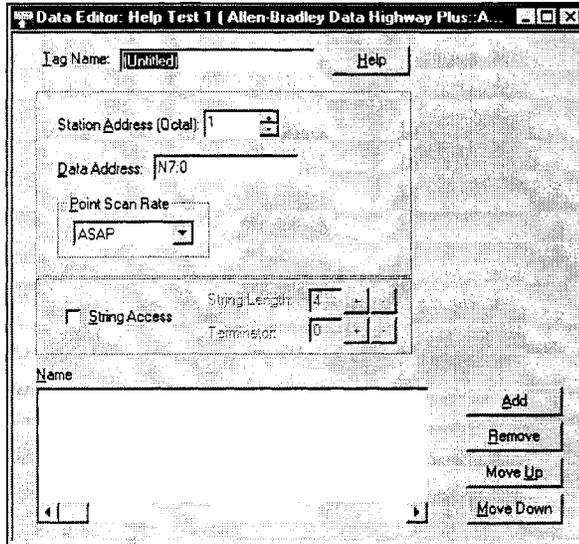

Figure 5. Allen-Bradley Data Highway+ Data Editor Dialog Box
2. Double-click on the driver name for which you want to configure tags. The data point configuration form opens, as shown in Figure 5.